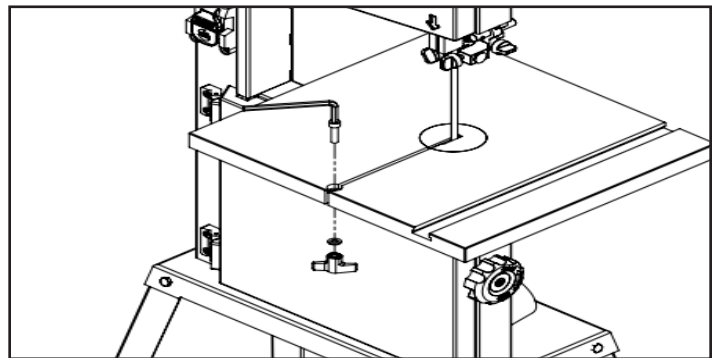

FIGURE 5
2. Install the Bolt through the front hole in the table top, and secure it in place from the underside of the table with the washer and wing nut. FIG. 5.